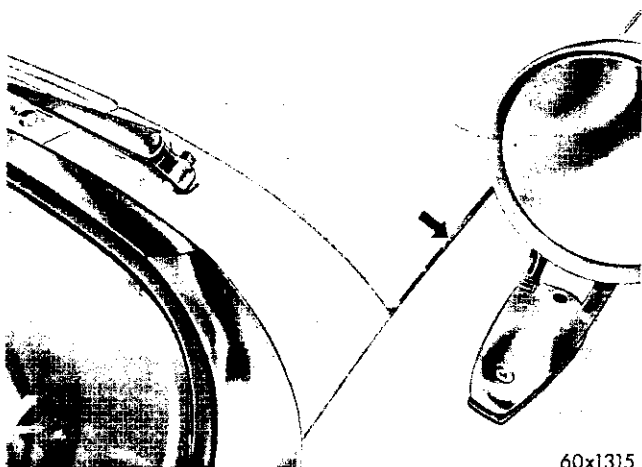

Fig. 18—Aligning the Hood at the Cowl Panel
(2) Loosen the bolts attaching the hood to the hinge plate. Move the hood forward until correct spacing has been obtained, then tighten attaching bolts securely and check fit of hood. (Refer to Fig. 18.) When moving the hood forward or rearward, it is suggested that the hood latch adjustment be checked.